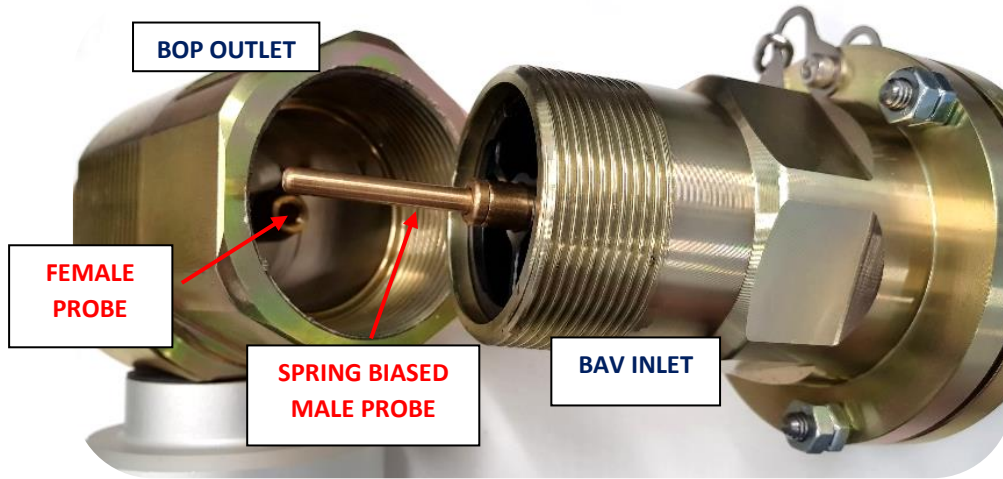

Figure 21 - Aligning FuelTrack BAV Inlet with Break-Out Point Outlet
- a. Align the spring biased **male** probe at the inlet of the BAV with the mating **female** probe within the outlet of the data **Break-Out Point (BOP)** – refer Figure 21.